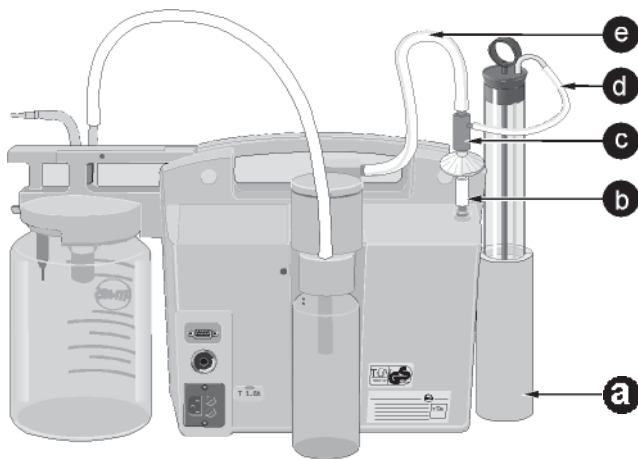

Fig. 21. Mounting the water vacuum gauge
- Suspend the support for the glass cylinder on the left side of the unit (**a** Fig. 21).